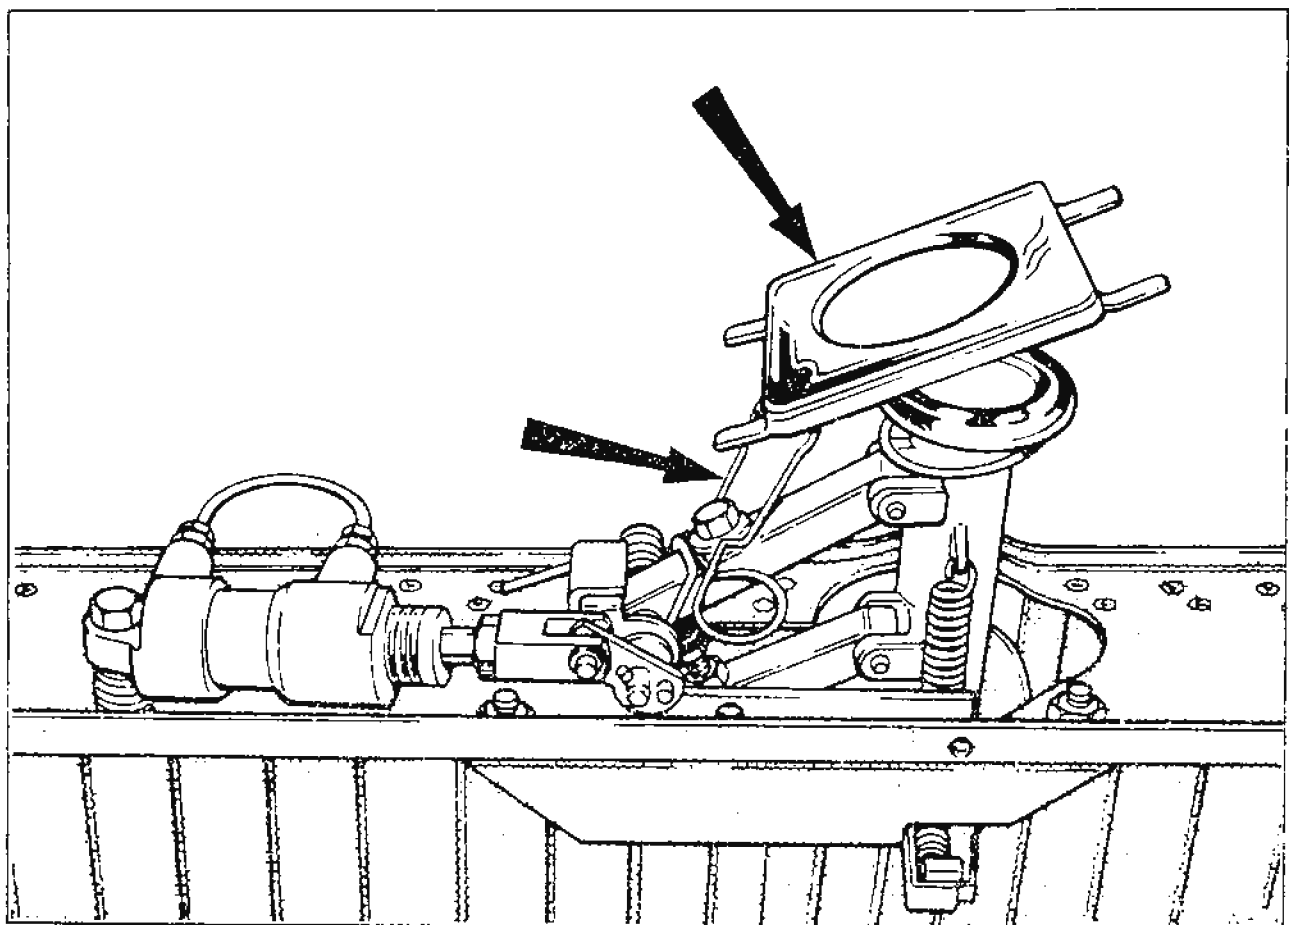

Fig. 3
6. Remove the plinth and spring from the mascot mechanism (see fig. 3).